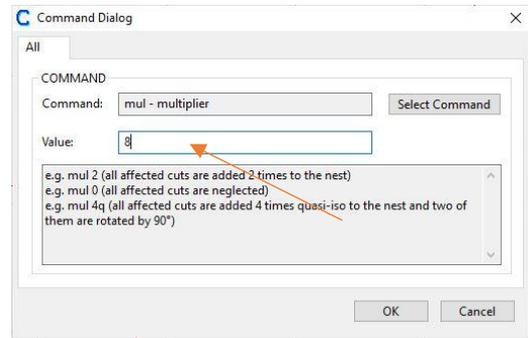

Figure 62
c. Back in the Command Dialog enter the multiplier value of “8” in the value entry (Figure 62). Click **OK** to confirm.